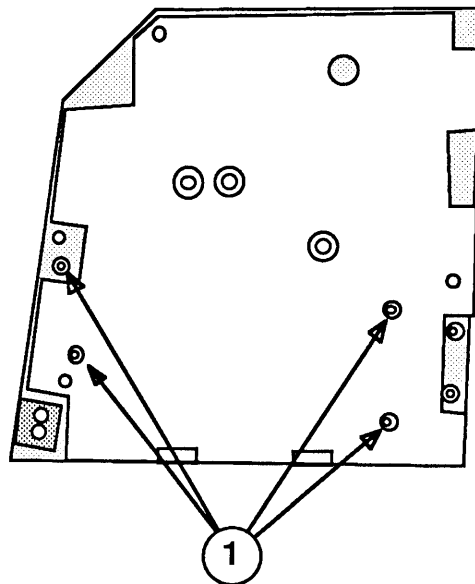

FIGURE 9
12. Place the board on the grounded workbench pad with the power supply down, and remove the four power supply screws (Figure 9, #1). Lift the board free.
3. Replace the four power supply screws (Figure 9, #1).